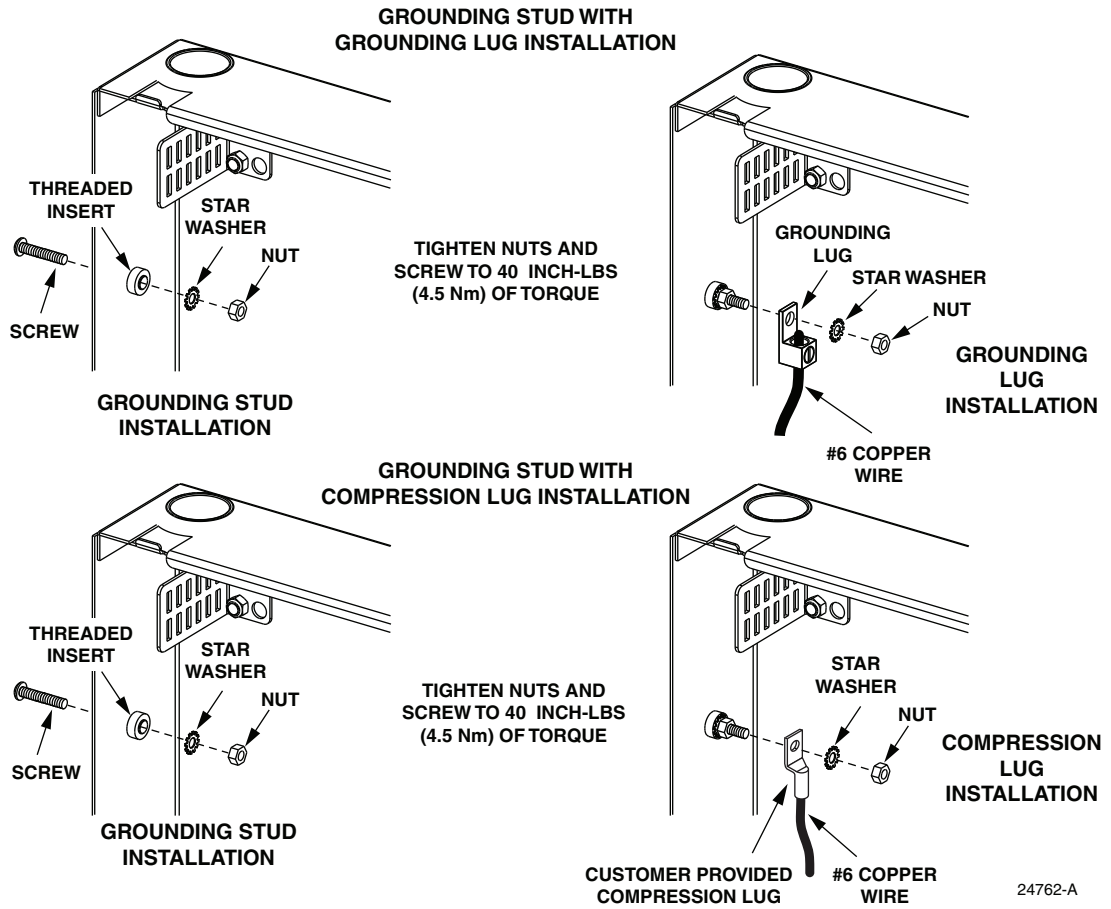

Figure 3. Typical Grounding Wire Installation
4. Install the required grounding components as shown in Figure 3. Tighten all nuts, screws, and studs to 40 inch-lbs (4.5 Nm) of torque.